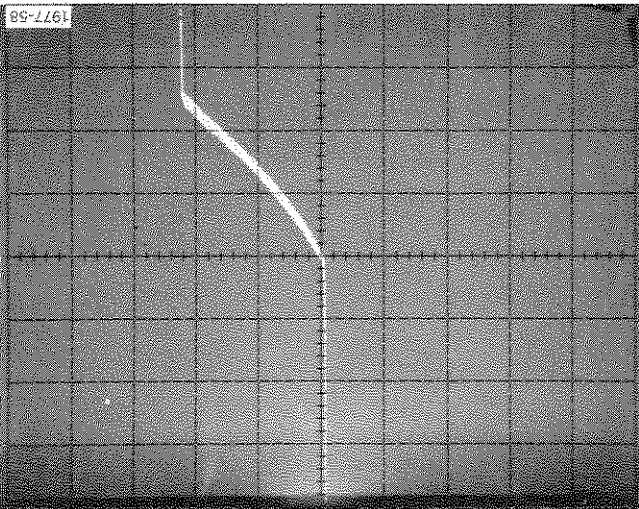

Fig. F-6. Typical display of voltage gain of MC3302P.
- b. Turn the SWEEP AMPLITUDE control slowly clockwise until the sweep provides a usable measurement area (see Fig. F-6).